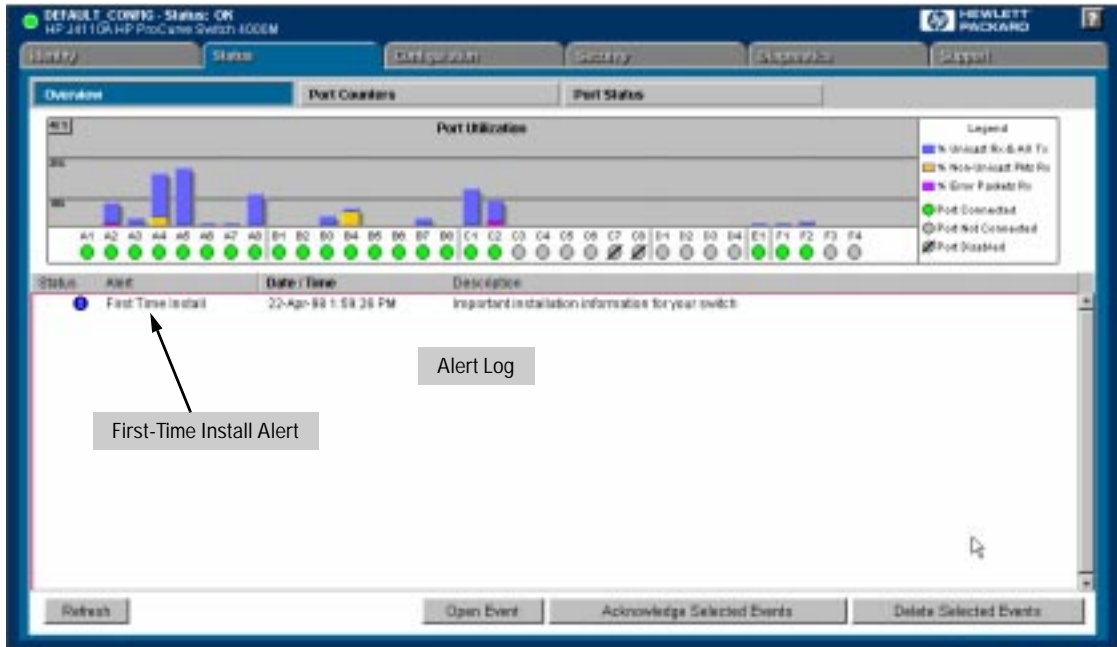

Figure 3-1. Status Overview Screen
The web browser interface automatically starts with the Status Overview window displayed for the selected device as shown in figure 3-1 on page 3-5.
3. The web browser interface automatically starts with the Status Overview window displayed for the selected device, as shown in figure 3-1 on page 3-5.
When you access the switch’s web browser interface for the first time, the Alert log contains a “First Time Install” alert, as shown in figure 3-1. This gives you information about first time installations, and provides an immediate